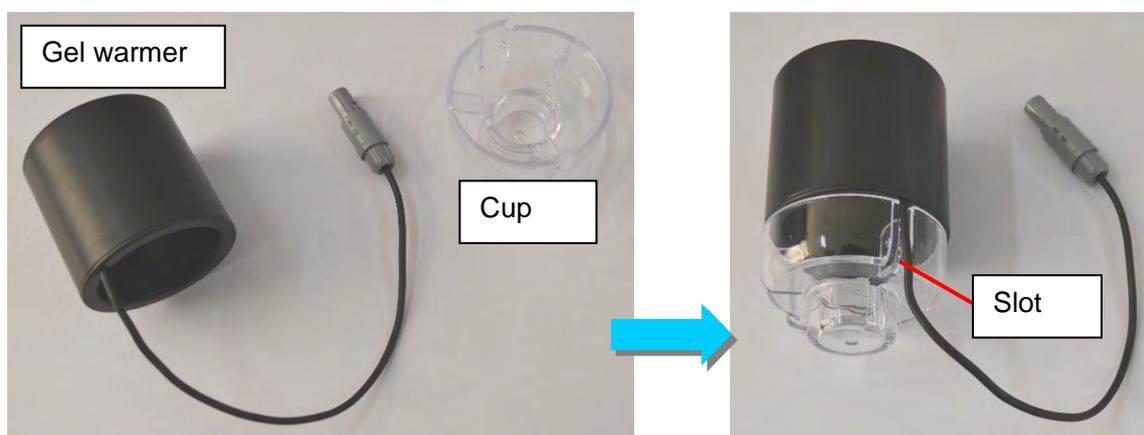

Fig.4-10 Connecting the gel warmer and cup
- 1) Assemble the cup and the gel warmer so that the heater's cable fits into the slot of the cup. See Fig. 4-10.